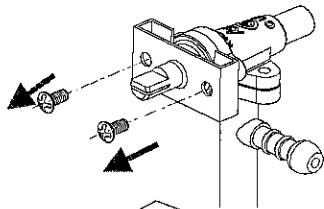

Fig.11A
*Locate:* (1) Side Burner Housing ( already attached to the Cabinet), Hose, Valve and Regulator Assembly (HVR), Igniter with wire, Burner assembly, (2) M4x8 screws.
Refer to Fig. 11A – Pick up the HVR and hold the Gas Valve in your hand and UN-SCREW the (2) M4x6 screws.